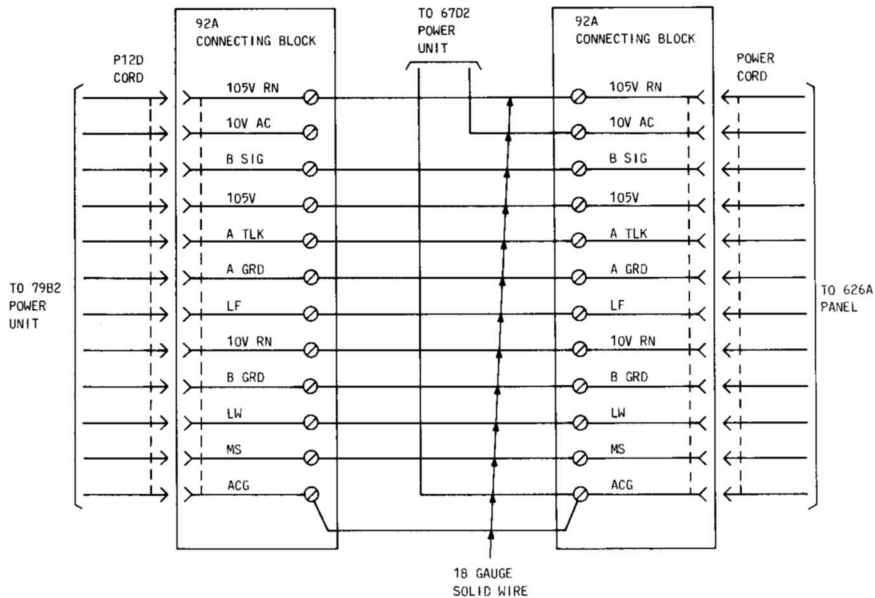

Fig. 7—67D2 Power Unit Connections Using 92A Connecting Block
3.06 For modular panel installations that are subject to expansion or where a large lamp multiple is anticipated, a 67D2 power unit, for 10 Vac power, can be used with two 92A connecting blocks to provide the required power for the lamps (Fig. 7).